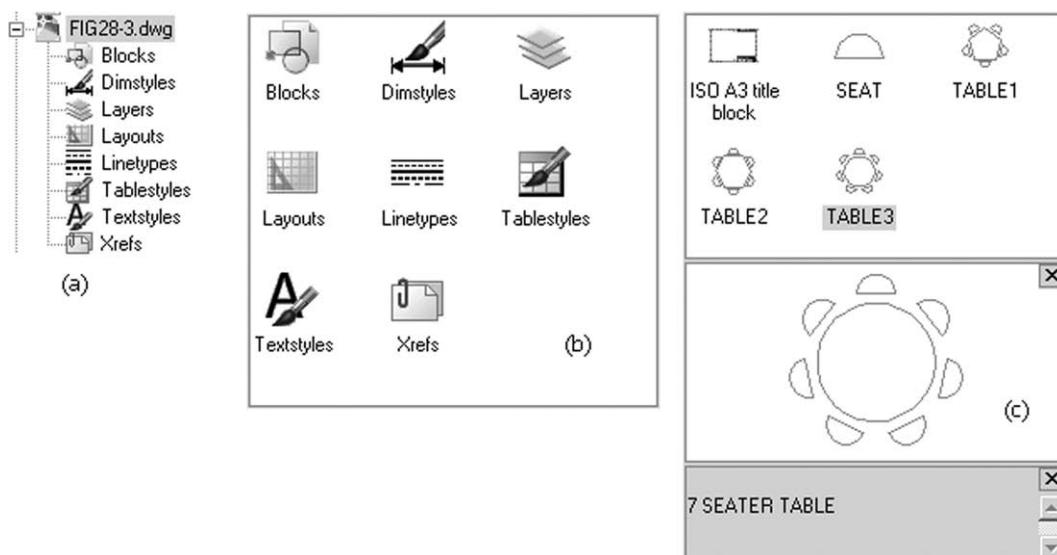

Figure 31.5 The explored Figure 28.3 with Blocks also explored.
- 2 Ensure that Preview and Description are 'active' and refer to Figure 31.5.
- e) The tree side displays a list – Figure 31.5(a)
- f) The content side displays icons – Figure 31.5(b).
- a) Pick (left-click) the block TABLE3 and note the display – Figure 31.5(c)